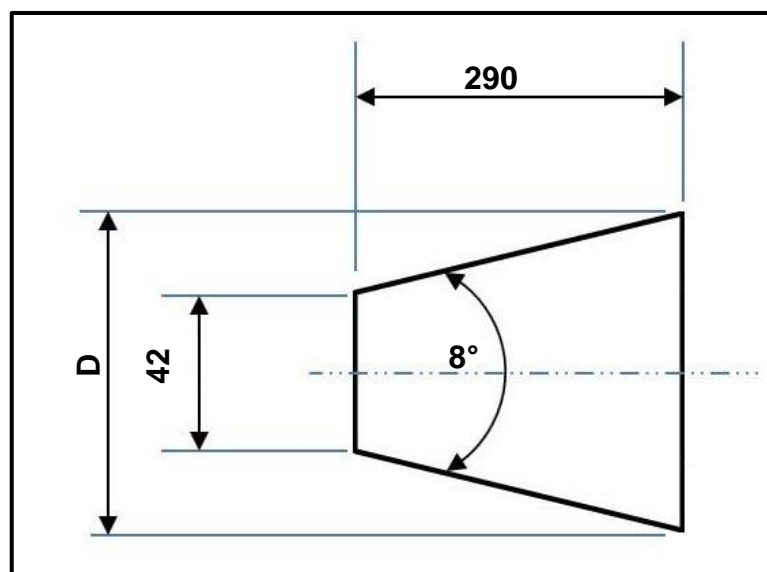

FIGURE 5.2
- 5.2 FIGURE 5.2 below shows a taper with an included angle of 8° which should be cut on a lathe by using the compound slide method. Calculate the diameter (D) of the taper. (4)